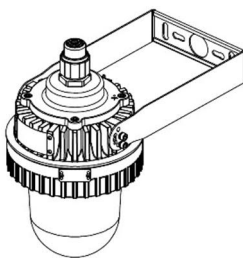

Figure 1
- ☞ Pocket holders and secured by means of the provided M6 screws, 24.5 kgf-cm. (Figures 1 and 3)